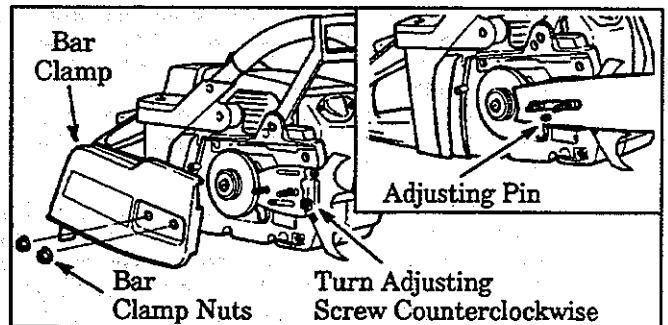

Figure 7
- Set the saw upright on a flat surface. Figure 7.
- Turn the Adjusting Screw counterclockwise with a standard screwdriver to move the Adjusting Pin almost as far as it will go to the rear. Figure 7.
- Mount the Guide Bar with the slotted end over the mounting bolts and the small adjusting pin through the small hole in the bar. Figure 7 (inset).